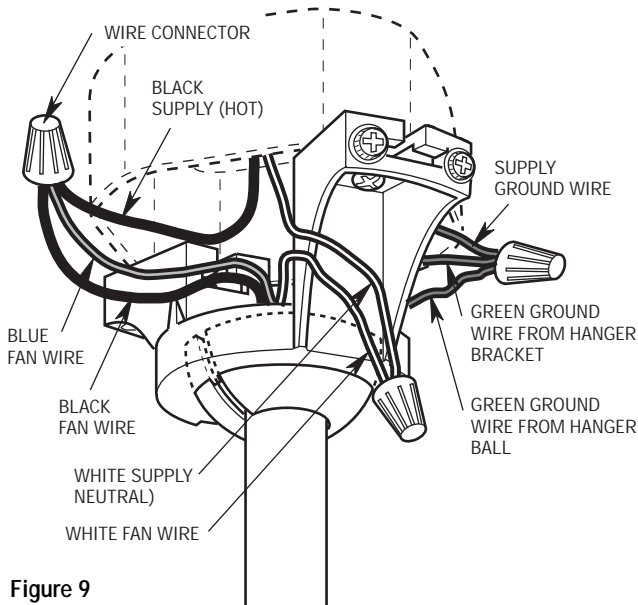

Figure 9
1. Connect the green grounding lead from the hanger ball and the green grounding lead from the hanger bracket to the grounding conductor of supply (this may be a bare wire or wire with green colored insulation) (Figure 9). Securely connect wires using wire connectors supplied.
2. Securely connect the fan motor white wire to the supply white (neutral) wire using wire connector supplied (Figure 9). Securely connect the fan motor black wire and blue wire to the supply black (hot) wire using wire connector supplied (Figure 9). After connections have been made, turn leads upward and carefully push leads into the outlet box, with the white and green leads on one side of the outlet box and the black and blue leads on the other side of the outlet box.